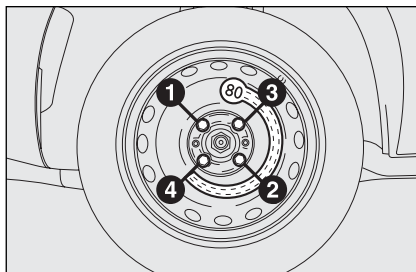

fig. 9
- using the wrench provided, tighten up the wheel bolts in a criss-cross fashion following the sequence shown in fig. 9.
- Using the wrench provided, fully tighten the bolts in the sequence shown in fig. 9;
- Using the wrench provided, fully tighten the bolts in the sequence shown previously for the space-saver spare wheel (see fig. 9).